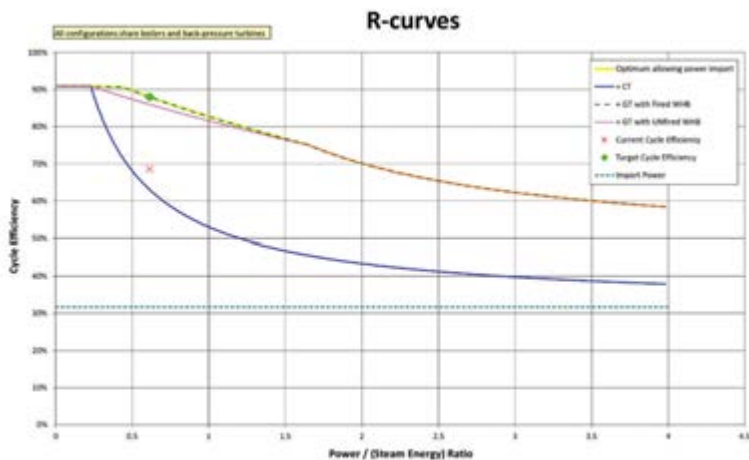

Figure 1. The R-curve helps engineers and operators identify the optimal operating point where the system can achieve the highest energy transfer efficiency.
Here's how the R-curve works: The energy transfer rate (shaft work) is the mechanical work done by a device like a pump, compressor or turbine. Usually, it is measured in units such as kilowatts (kW) or horsepower (hp). The energy needs from steam, often used for reboilers, stream heaters, stripping steam, vacuum ejectors and steam tracing, is typically measured in MMBTU/h or GCal/h. The ratio of these two energies used is shaft power divided by steam energy use (converting the numbers to identical units); it's generally plotted on the horizontal axis of the R-curve. The vertical axis displays the cycle efficiency of shaft work generation (Figure 1). The R-curve can reveal the following:
3. In Figure 1, the red cross shows the actual cycle efficiency for an oil refinery of 69%, while the R-curve shows a maximum obtainable efficiency of 88%.